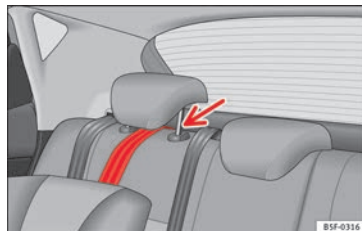

Fig. 34 Retainer strap: correct adjustment and fitting.
- Guide the strap under the rear seat head restraint »» Fig. 34 (lift the head restraint where necessary).